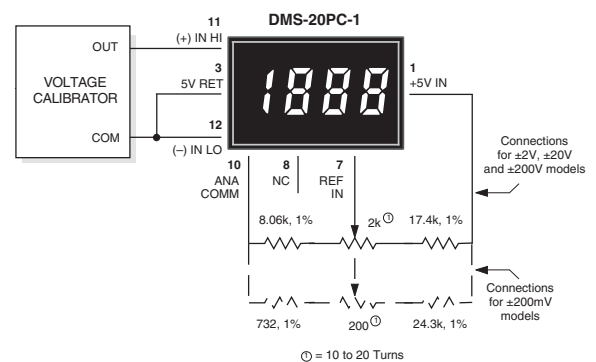

Figure 10. External Gain Adjustment
6. Gain Adjust: There is a gain-adjust potentiometer on the back of each meter. It has approximately ±50 counts (±2.5%) range of adjustment. Since these devices essentially have no zero/offset errors, a gain adjustment is effectively an overall accuracy adjustment. Though they may be performed at any point (except zero), accuracy adjustments are most effective when performed with higher level input signals. The circuit shown in Figure 10 provides ±10% range of adjustment.
- 8. External Gain Adjustment:** Connect REFERENCE OUT (pin 8) to REFERENCE IN (pin 7) for normal, factory calibrated, operation. Use the circuit shown in Figure 10 for applications needing external gain adjustment. Calibration is performed with a precise, near-full-scale, input voltage.